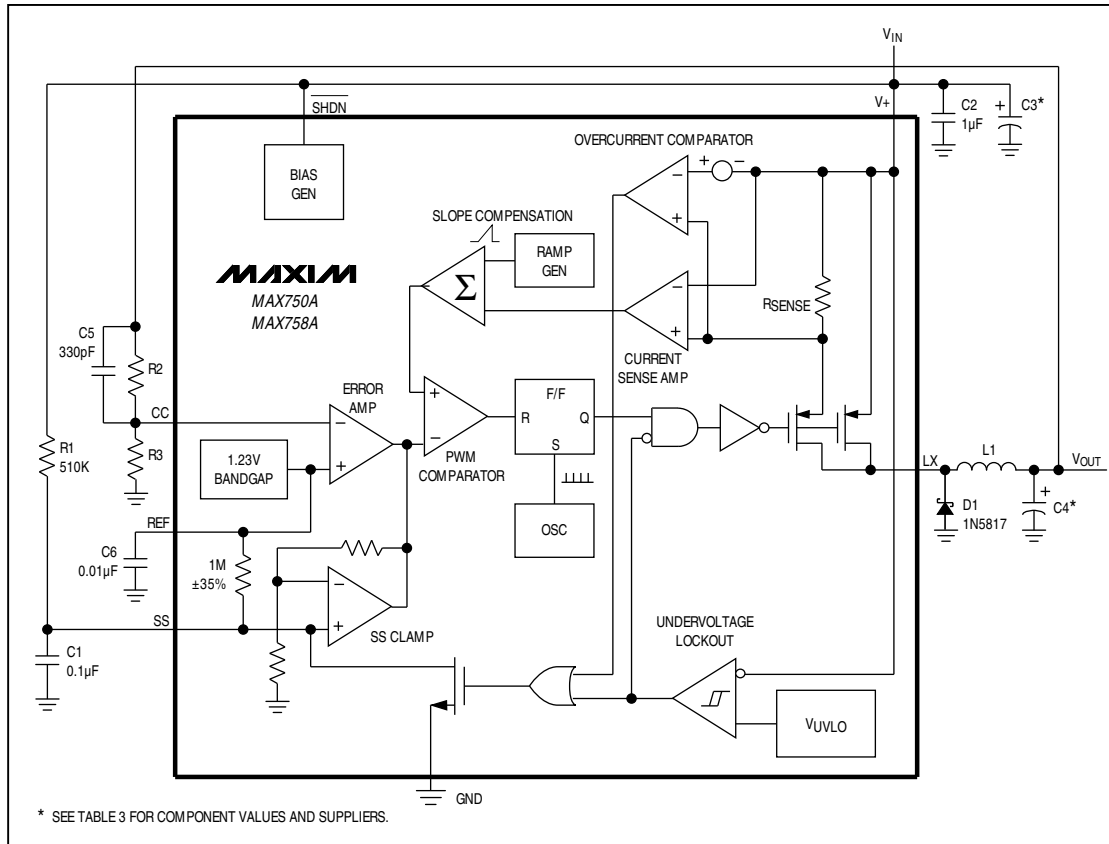

Figure 1. Detailed Block Diagram with External Components
The controller consists of two feedback loops: an inner (current) loop that monitors the switch current via the current-sense resistor and amplifier, and an outer (voltage) loop that monitors the output voltage through the error amplifier (Figure 1). The inner loop performs cycle-by-cycle current limiting, truncating the power-transistor on-time when the switch current reaches a predetermined threshold. This threshold is determined by the outer loop. For example, a sagging output voltage produces an error signal that raises the threshold, allowing the circuit to store and transfer more energy during each cycle.
Figures 1 and 2 show a capacitor and a resistor connected to the soft-start (SS) pin to ensure an orderly power-up. Typical values are 0.1 μ F and 510k Ω . SS controls both the soft-start timing and the maximum output current that can be delivered while maintaining regulation.